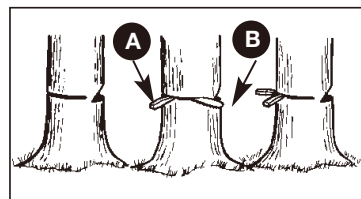

Fig. 11C
1. Use wooden or plastic wedges (A) to prevent binding the bar or chain (B) in the cut. Wedges also control felling (Fig.11C).